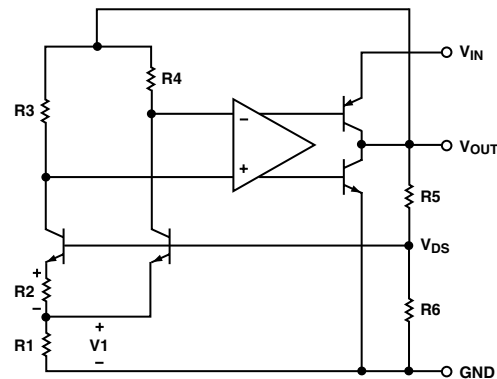

Figure 1. Simplified Schematic
The ADR370 uses the band-gap concept to produce a stable, low temperature coefficient voltage reference suitable for high accuracy data acquisition components and systems. This device makes use of underlying temperature characteristics of a silicon transistor's base-emitter voltage (V_{BE}) in the forward biased operating region. Under this condition, all such transistors have a $-2 \text{ mV}/^\circ C$ temperature coefficient (TC) and a V_{BE} that, when extrapolated to absolute zero, 0 K, (with collector current proportional to absolute temperature) approximates the silicon band-gap voltage. By summing a voltage that has an equal and opposite temperature coefficient of $2 \text{ mV}/^\circ C$ with a V_{BE} of a forward biased transistor, an almost zero TC reference can be developed. The simplified circuit diagram in Figure 1 shows how a compensating voltage, V_1 , is achieved by driving two transistors at different current densities and amplifying the resultant V_{BE} difference (ΔV_{BE} , which has a positive TC). The sum (V_{BG}) of V_{BE} and V_1 is then buffered and amplified to produce a stable reference voltage of 2.048 V at the output.